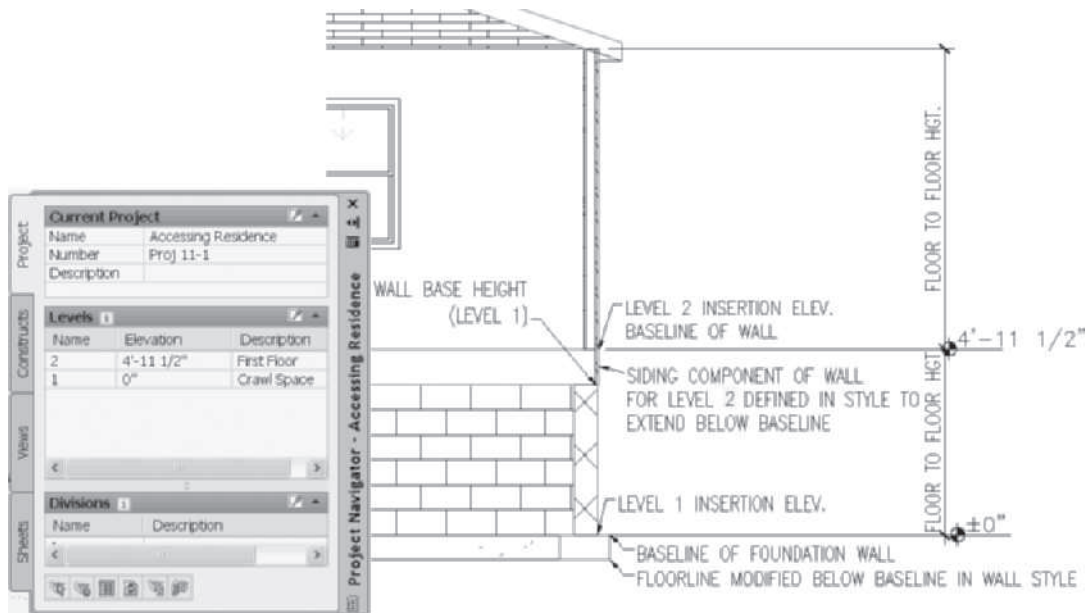

FIGURE 12.1 Creating levels for a model
The elevation or section drawings of a building are developed from a model drawing. The model is constructed in the Project Navigator by attaching such Construct drawings as floor plans, decks, porches, or other detached components associated with each level. The levels specified in the Project Navigator as shown in Figure 12.1 determine the Z coordinate insertion point for the Construct drawings assigned to each level. The insertion point of the construct is located at the baseline of a wall. The siding wall component defined in the wall style of floor 1 extends below the baseline of the wall to cover the floor framing as shown in Figure 12.1. In this example, the FloorLine command was used in the Construct drawing to extend a wall component of the upper level down below its baseline to cover the floor framing. You can adjust the offset values for the FloorLine command based upon distances between the levels determined from elevation views of the model. The floor framing can be represented by a slab object with its thickness set equal to the joist and sill wood framing.
3. Click the **Levels** button of the **Project** tab as shown in Figure 12.1 to open the Levels dialog box. Specify values for floor elevation and finish floor to finish floor vertical distances for each level (foundation, floor 1, floor 2).